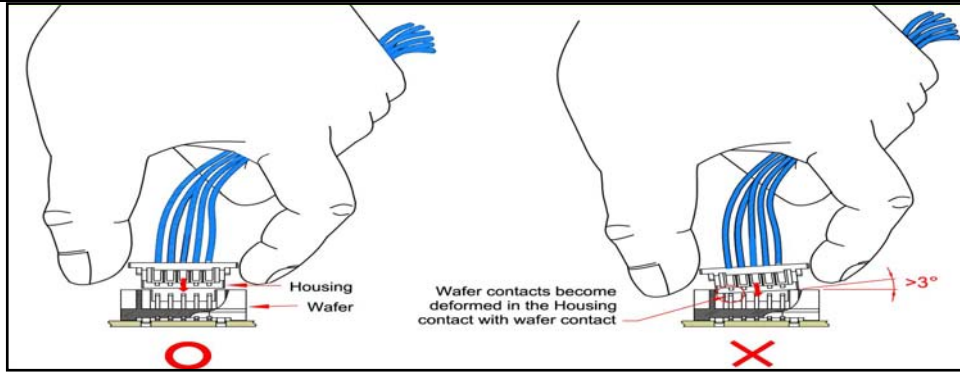

figure 3.2
3.2 It causes deformation due to the housing come into contact with the base contact when the housing inserted into the wafer with leaning. Housing shall be mated without twist or wrench. In case twist or wrench should occur, it should be within 3 deg. (see figure 3.2)